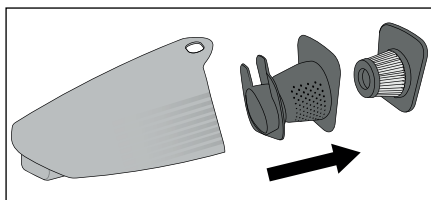

Fig. 3
- 3) Start by pulling the HEPA filter **6** and then the coarse filter **7** out of the dirt container **8** (fig. 3). Tap out both parts over a rubbish bin or similar. If necessary, you can rinse out the HEPA filter **6** with fresh water. Allow it to air dry fully afterwards.